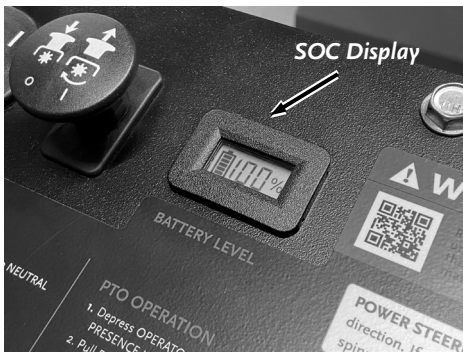

Figure 37
2. The Battery SOC display will show a number between 0% and 100% indicating the battery charge percentage (**Figure 37**).